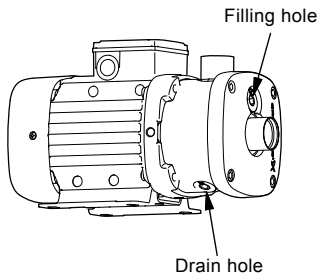

Fig. 8 Position of filling hole and drain hole
3. Remove the filling plug. See fig. 8.
Remove the filling and drain plugs from the pump. See fig. 8.